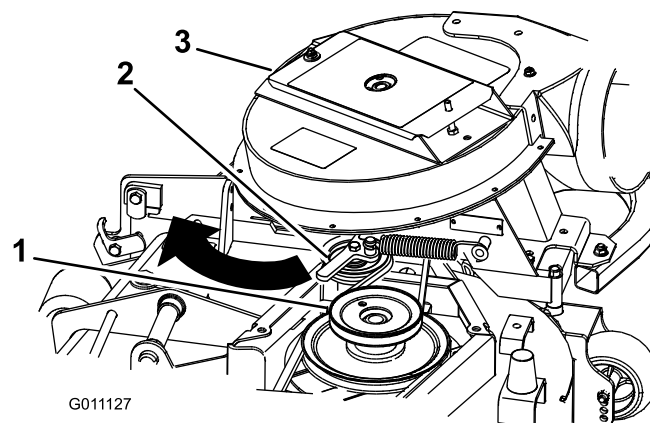

Figure 19
5. Pull the spring loaded idler pulley back and route the belt around the mower deck pulley. Ensure the belt is routed around the blower pulleys correctly (Figure 19).